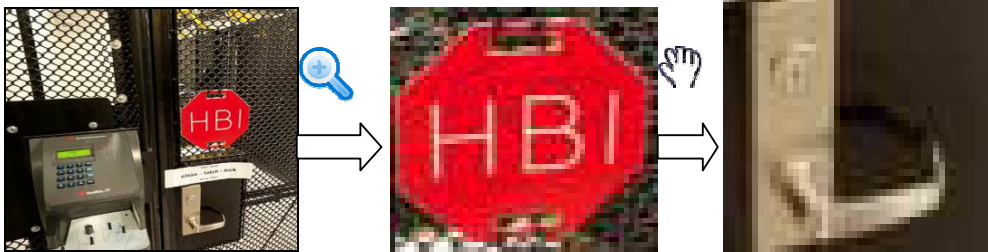

Figure 3-33
- Put the middle button at the centre of the zone you want to zoom in, and move the mouse, user may view an interface shown as in Figure 3-33.